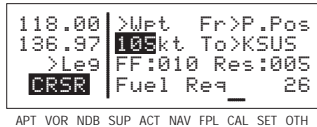

Figure 4-60
6. Select your estimated groundspeed for the trip (figure 4-60).